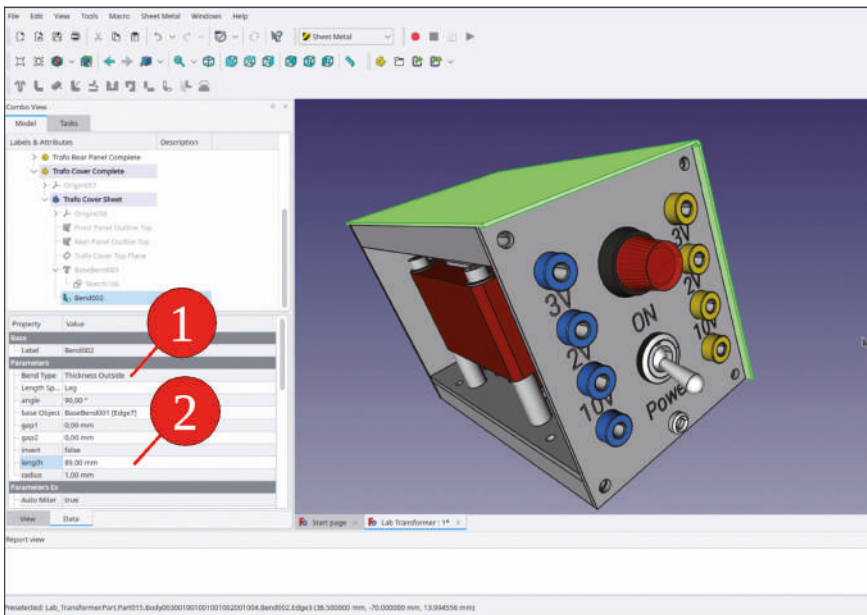

Figure 9-117
19. In the tree view, mark the new bend object. In the property list, select 'Thickness outside' as the bend type. Set the length to 89 mm. The bend will only update, if a recalculation has been triggered (e.g., by the F5 key, Figure 9-117).